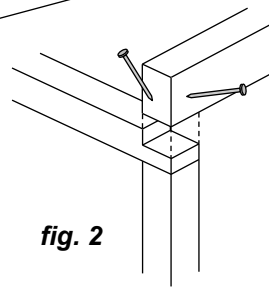

fig. 2
Step 2: Select Back and Front Base Plates 1.980m (Green), Back Top Plate 1.980m (Red) and Front Top Plate (90x45mm). With one End Frame lying on the ground, nail plates to frame, two 75mm nails per joint. Ensure Green joins to Green and Red joins to Red. See (**fig. 2**) for nailing detail on Top Front Plate (90x45mm).